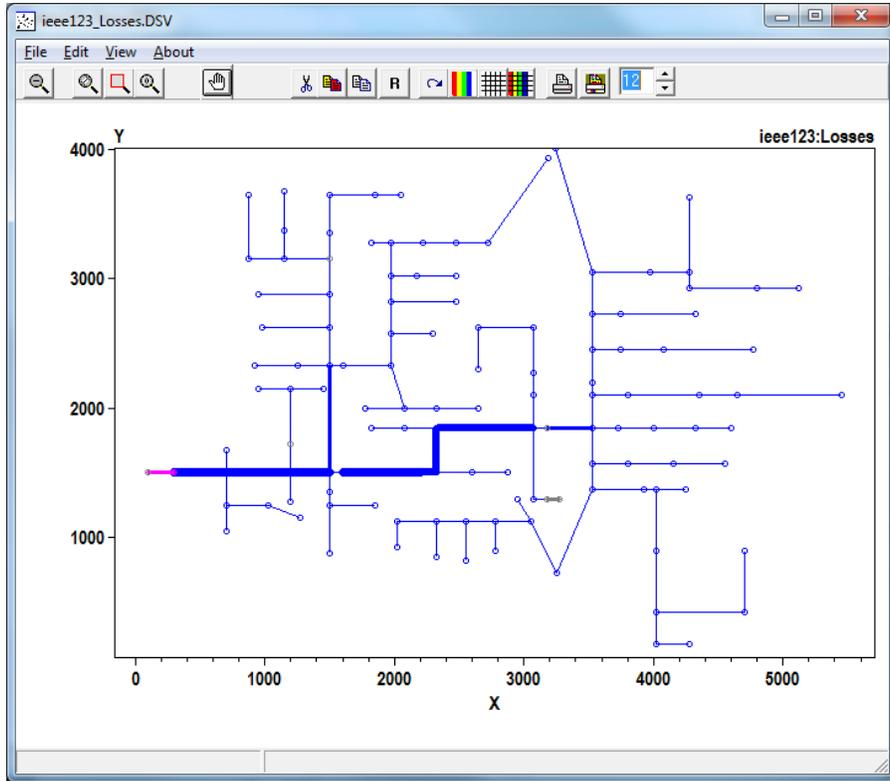

Figure 7. Lines Losses for a Feeder
- c. *Visualize data onto a one-line of the feeder* – If you provide bus location data via the `buscoords` command (see the OpenDSS Manual for more information), you can superimpose power flow data onto a map/one-line of the system. To do this, go Plot > Circuit Plots > Circuit Plot. An example is provided in Figure 7. Additional parameter cans be specified via the `plot` command; see the OpenDSS Manual for more details.